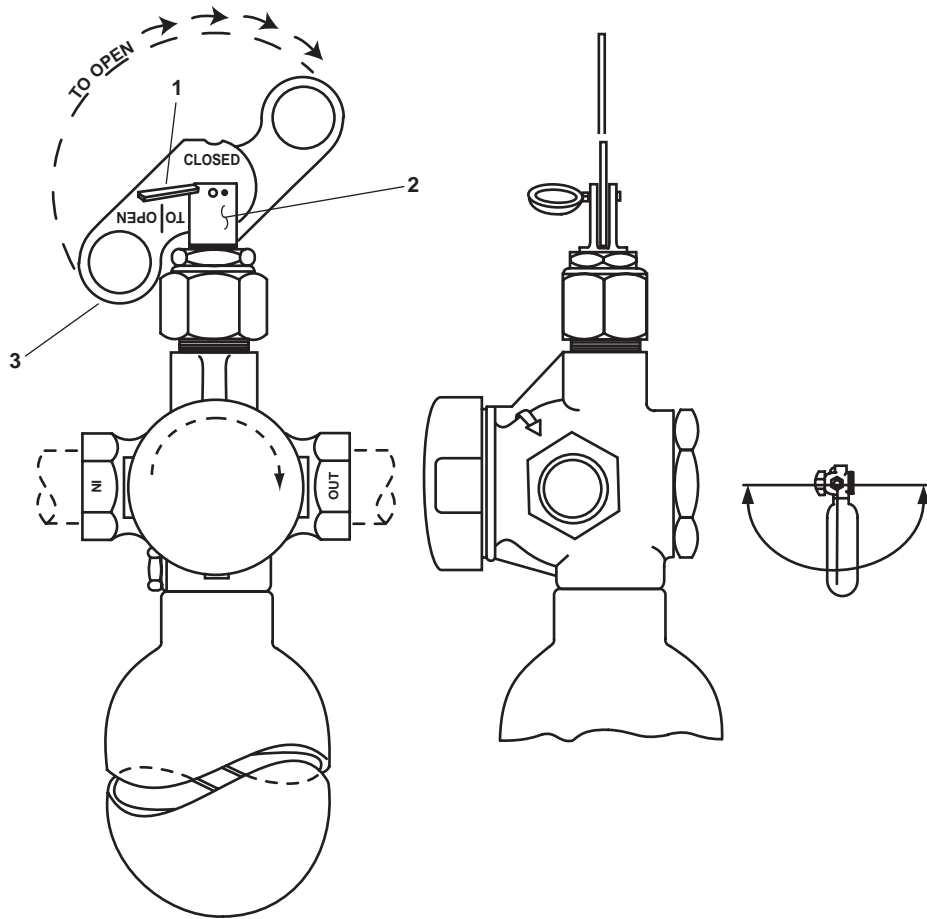

Figure 7. FM-200 Discharge Valve
1. Remove the locking pin (figure 7, item 1) on the discharge delay valve (figure 7, item 2).
2. OPEN the discharge delay valve (figure 7, item 2) by rotating the handle (figure 7, item 3) to the OPEN position.